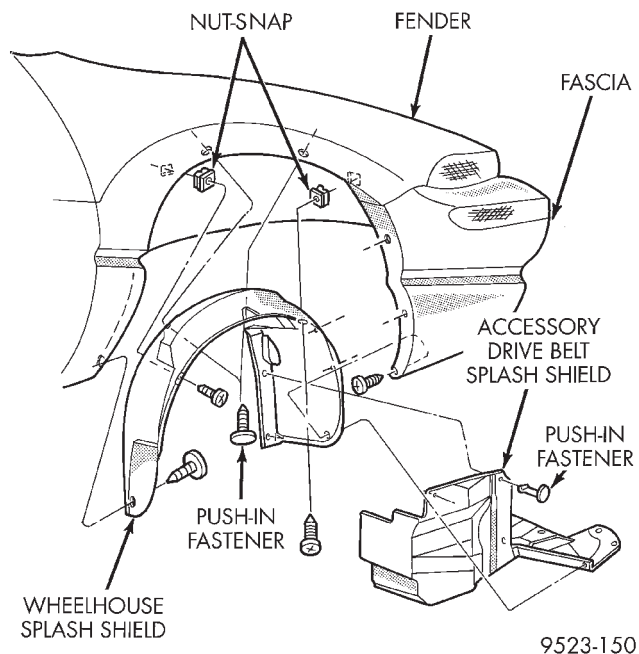

Fig. 8 Right Front Wheelhouse Splash Shield
- (1) Remove screw holding accessory drive belt splash shield to front fender (Fig. 8).
- (2) Remove push-in fasteners holding accessory drive belt splash shield to frame rail.
- (3) Separate accessory drive belt splash shield from vehicle.
- (1) Hoist and support vehicle on safety stands.
- (2) Remove right front wheel.
- (3) Remove screws holding wheelhouse splash shield to front fender lip (Fig. 8).